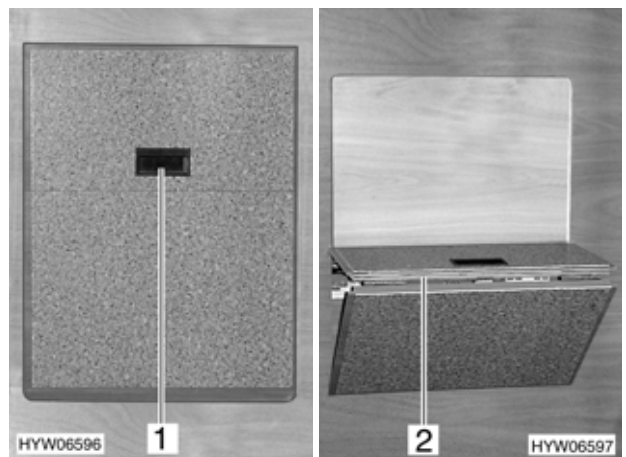

Fig. 69 Rear bed step
- Put your hand into the recessed grip (Fig. 69,1) and pull towards you.
- Pull guide step (Fig. 69,2) all the way down.